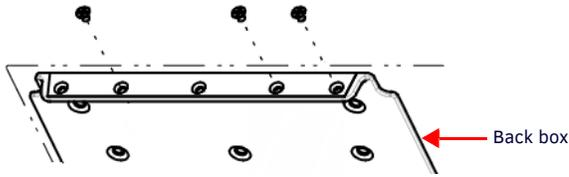

FIG. 6 SECURE THE PANEL TO THE BACK BOX VIA SCREW HOLES IN BACK BOX
- Use the included 4-40 screws to secure the touch panel onto the back box (FIG. 6). There are five screw holes used for securing the panel on the left and right side of the back box (landscape installation; for a portrait installation, the holes are located on the top and bottom of the back box.)